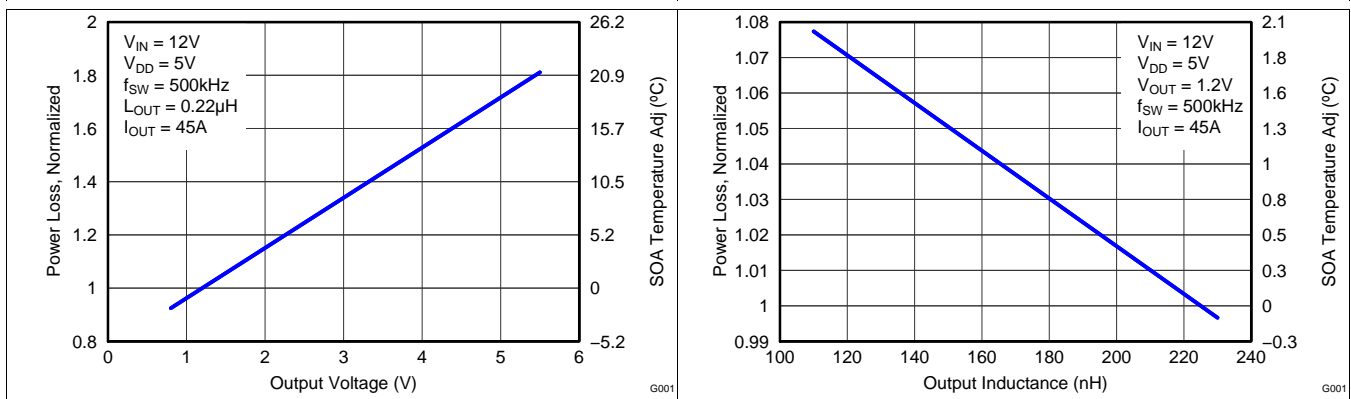

Figure 8. Normalized Power Loss vs Output Voltage
- Normalized Power Loss for output voltage \approx 1.06 (Figure 8)
- SOA adjustment for output voltage \approx 1.5°C (Figure 8)